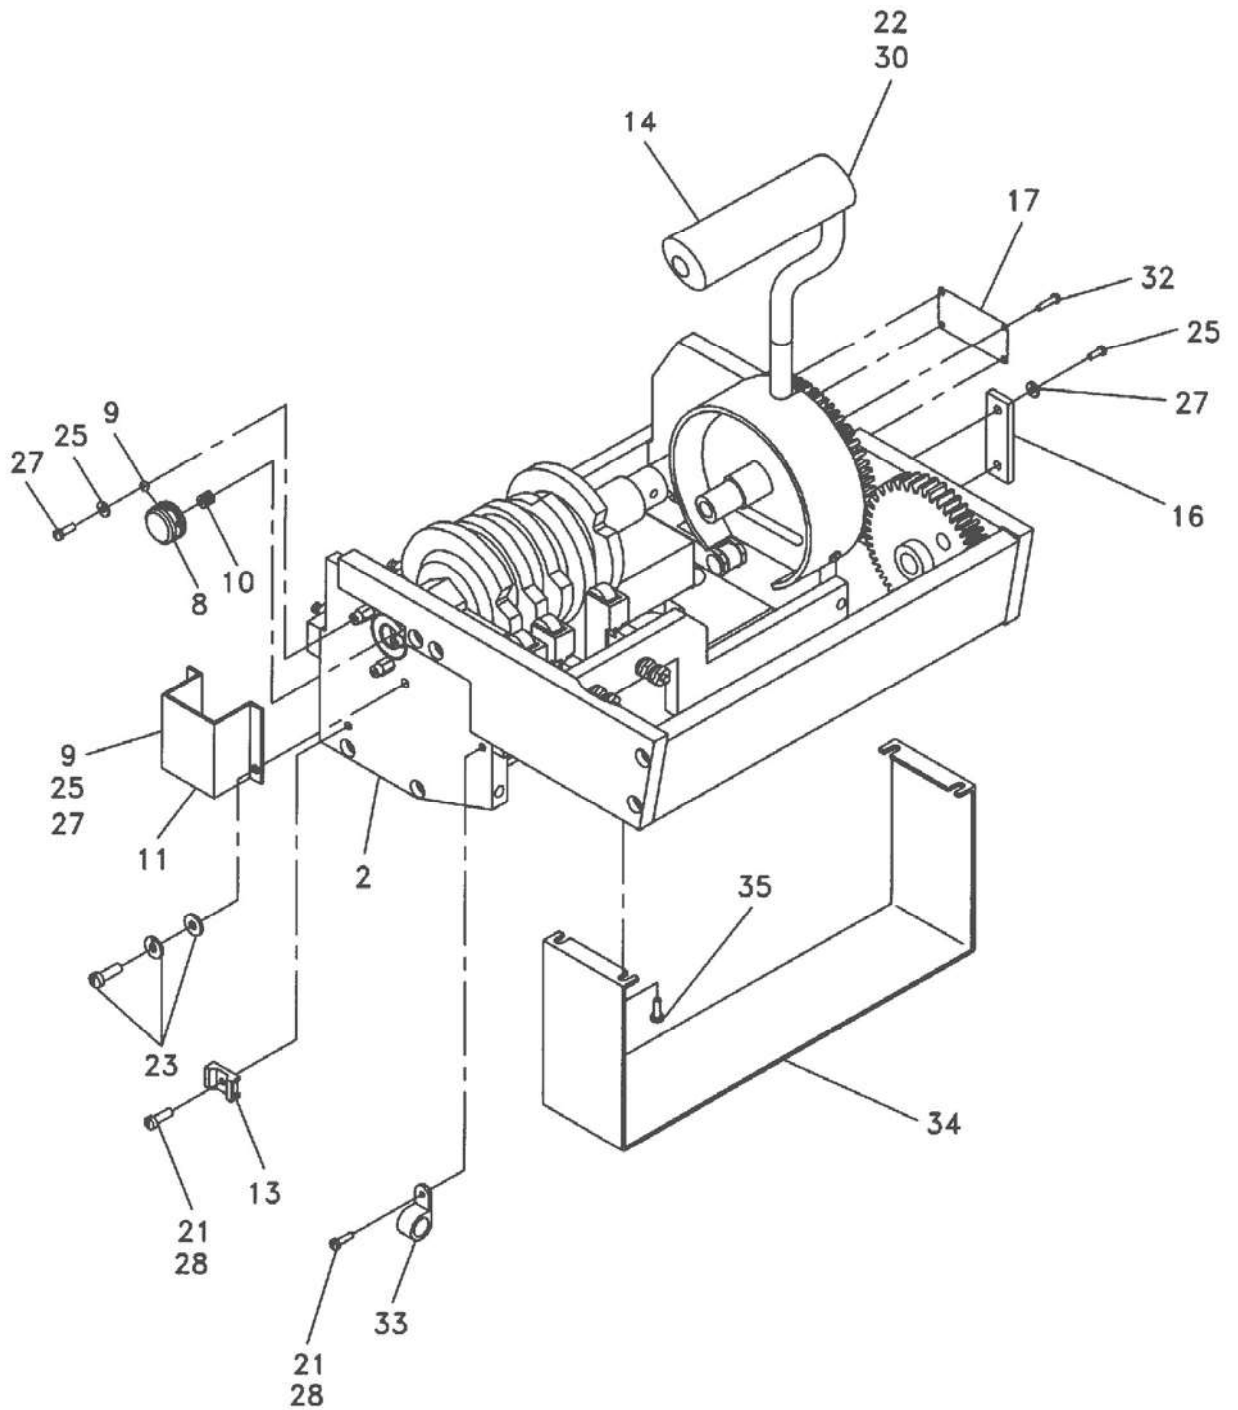

Figure 8-2-67 Master Controller Lubrication (Sheet 1 of 3)
1. Remove the master controller from the operator's control panel (Refer to Figure 8-2-67)